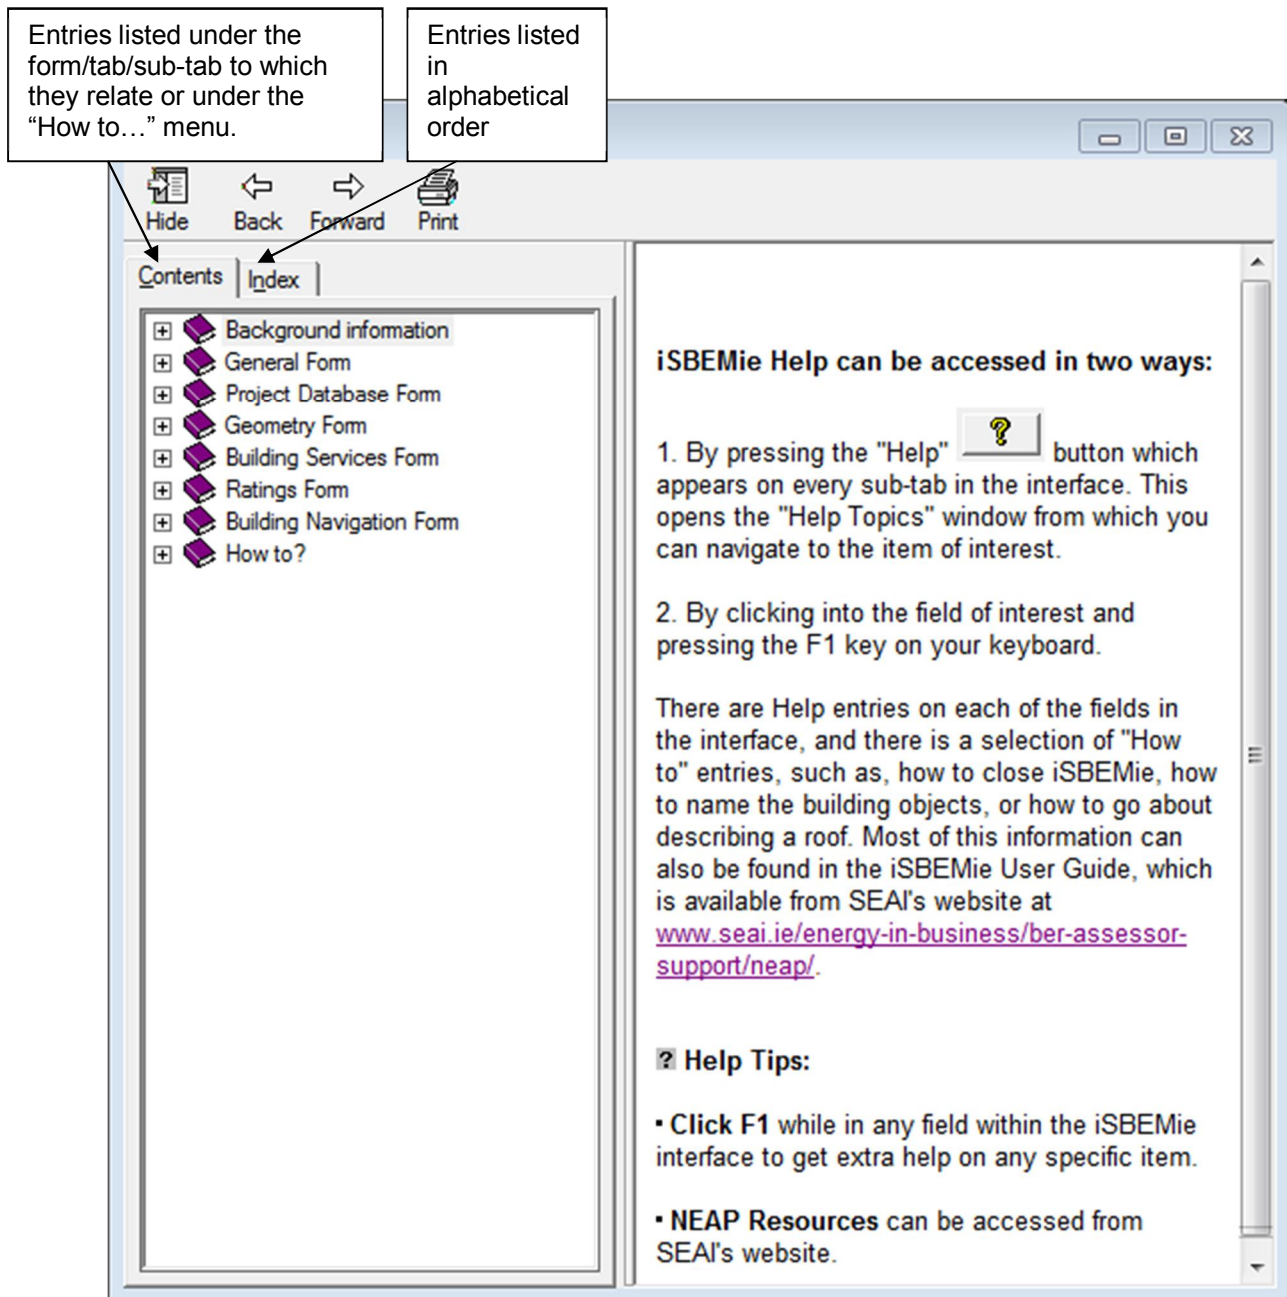

Figure 13: Help Topics window
1. By pressing the “Help”  button which appears on every sub-tab in the interface as described in Section 6.1. This opens the “Help Topics” window from which you can navigate to the item of interest (see Figure 13).
Help Topics window (Figure 13)